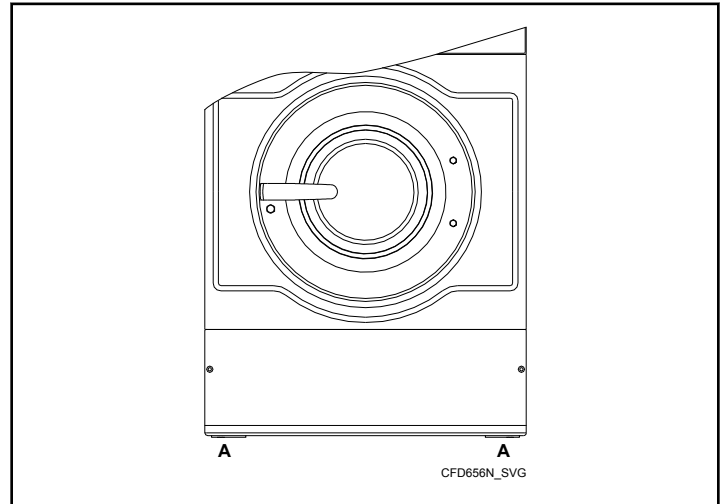

Figure 10
The machine must be securely fixed on a flat surface (metal base, concrete or solid ground). The anchoring is to be done on the provided places (A), refer to *Figure 10*, in the holes on the corner of the base. Refer to Mounting Bolt Hole Locations.